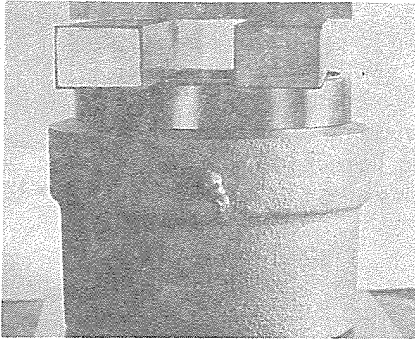

Figure 13
6. Position the replacement bearing on the hub, with its shielded side up. Press **only** on the **outer** race to seat the bearing fully in the hub. See Figure 13.